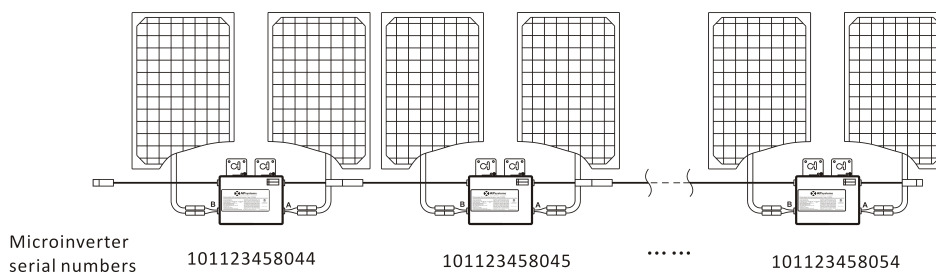

Figure 12
- Each APsystems Microinverter has removable serial number labels. Peel labels off, affix one to the respective location on the APsystems installation map, and fill in A,B in the label below(as Figure13) according to the layout on the roof(as Figure 12). Then affix another label to the PV module frame which is easy to see. The warranty cards can obtain from the appendix of this manual or APsystems website [www.APsystems.com](http://www.APsystems.com)